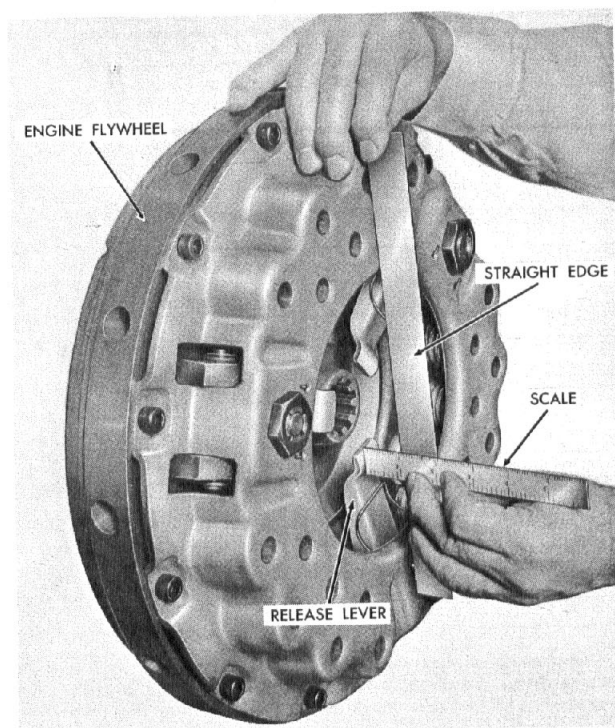

Fig. 28 - Checking Dimension 'A'.
Note: If release levers are not in plane, it is an indication that cover is not properly seated in flywheel. Check "A" dimension, Fig. 28 and chart on pages 26-28.
(1) Dimension 'A' is the distance from the top of the clutch flywheel ring (cover) to ends of release levers. See Fig. 28.
(2) Check chart on pages 26-28 for correct 'A' Dimension. Satisfactory operation of the clutch depends greatly upon the accuracy of the lever setting, as this controls the parallel movement of the pressure plate.
(3) A straight edge and scale will provide a means of checking the 'A' Dimension as shown in Fig. 28.
(4) See Chart on page 25 for release lever travel requirements.
(5) New or genuine Lipe-Rollway exchange cover assemblies are pre-adjusted at the factory and the lever settings shall not be altered. If the 'A' dimension does not check out according to the chart on pages 26-28 within $1/32$ " recheck the complete installation and, if necessary, remove the cover.